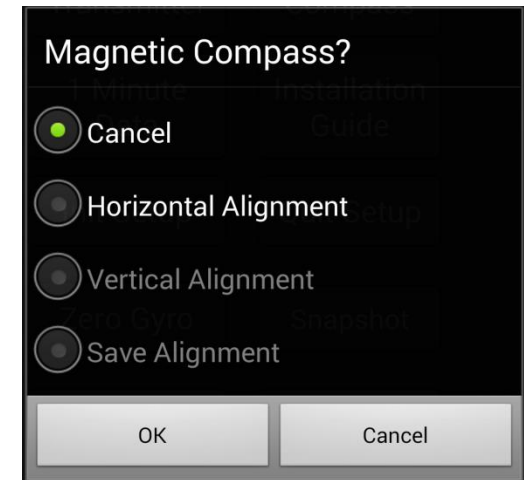

Figure20 Magnetic Compass Calibration Interface
3. Click “Magnetic compass” to open the calibration dialog box, as shown in Figure20.